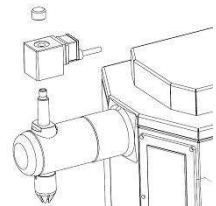

fig. 16
- Remove hand nut from magnetic valve, lift-up the magnet-coil and let it hang by its cable. (fig. 16)
- Place magnet coil and hand nut on the upper closing unit. (fig. 16, page 21) Tighten hand nut and slide-on garnishing nozzle.